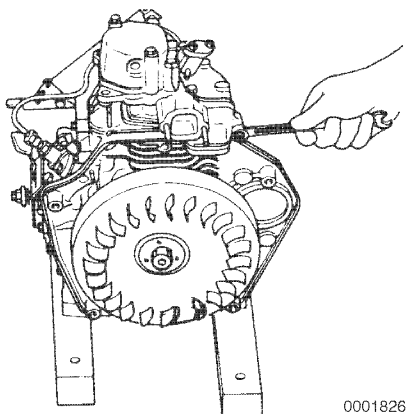

Figure 6-38
15. Remove the air intake manifold (**Figure 6-38**).